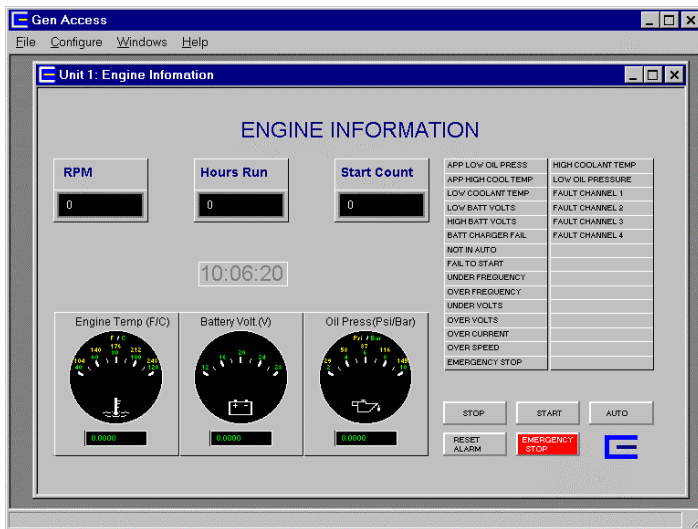

Figure 4.11 The Engine Information view.
Step 8. Switch to Engine Information view: Right click on your mouse in the Generator Information window to bring up the pop-up menu. Select Engine Info from the menu (this time the command Generator Info is disabled). An Engine Information view appears on the screen (Figure 4.11).